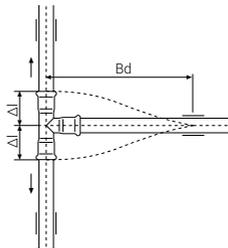
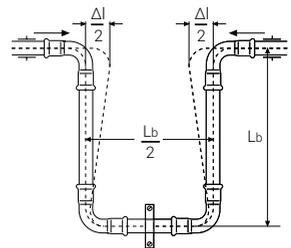

Fig. 13
Fig. 14
Expansion can be offset by the use of a pipe segment (*Figures 12, 13*), U-bend (*Figure 14*) or compensators. The level of expansion to be offset can be determined beforehand by calculating the changes in length.
- **Lb** = depth of Ω -shaped expansion compensator (*Figure 14*)
The nomogram in *Graph 1* enables the expansion bend length [Bd] for *Figure 12* to be rapidly and accurately determined by taking account of the respective pipe types and the expansion to be compensated [Δl]. For the situation in *Figure 13*, multiply the Bd value from *Graph 1* by 1.44 to determine the expansion compensation length. *Graph 2* gives the Lb values for the installation situation illustrated in *Figure 14*.
In the case of an Ω -shaped expansion connection, the calculated value of an expansion equalizer [Lb] as in *Figure 14* has to be approximately halved as it is effectively two expansion sections. The value [Bd] does not have to be divided exactly by two, but should be divided by a factor of 1.8: **$Lb = Bd/1.8 = 827.2/1.8 = 459.6\text{mm}$**
Graph 2: Nomogram for Calculating the Situation in Figure 14. Compensator L_b [mm]